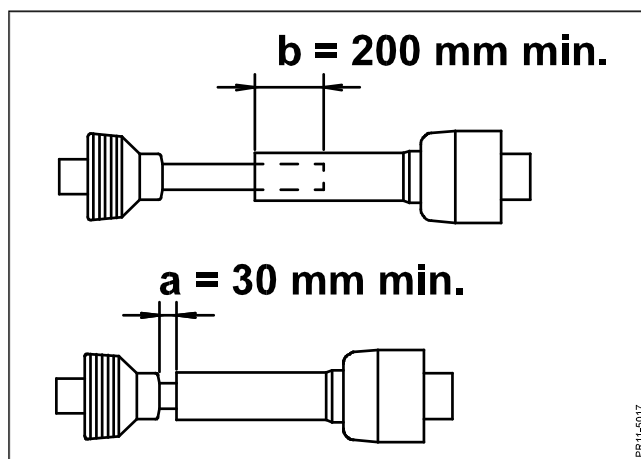

Fig. 2-5
- Fig. 2-5** Adjust the length of the PTO shaft so that it:
IMPORTANT: The specified values for overlapping on the tubes of the PTO shaft must be observed as shown on figure. 2-5.